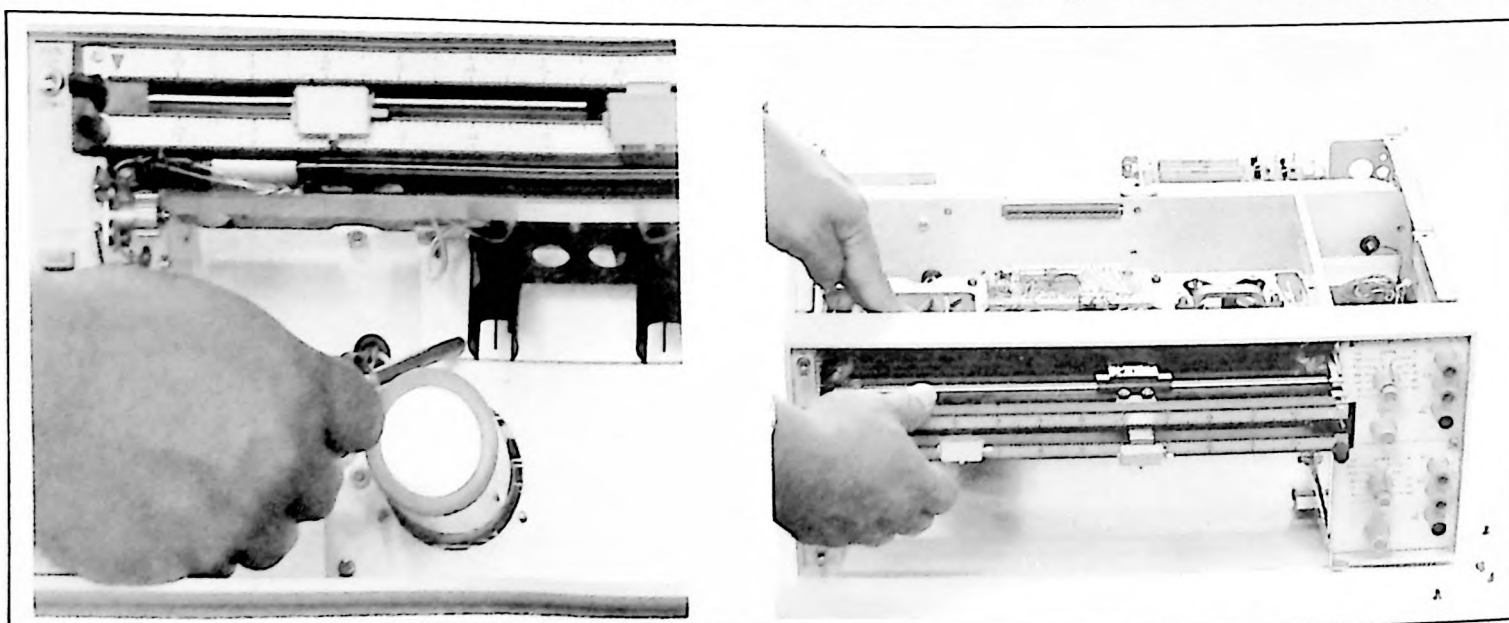

Figure 5-7. Servo Module Removal
e. Servo Module — To gain access to pens, servo motors, etc., unscrew two screws from plate at rear of chart magazine cavity. Servo module slides out on tracks (Figure 5-7).